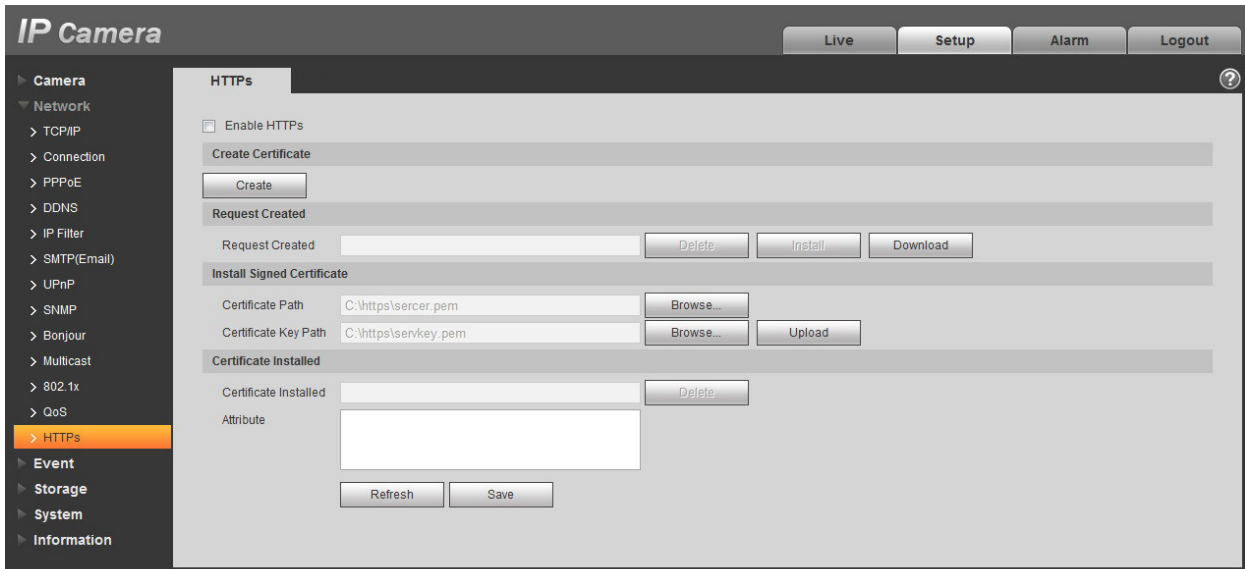

Figure 5-61
1. Select "Setup > Network > HTTPs". The system will display the interface of HTTPs, which is shown in Figure 5-61.